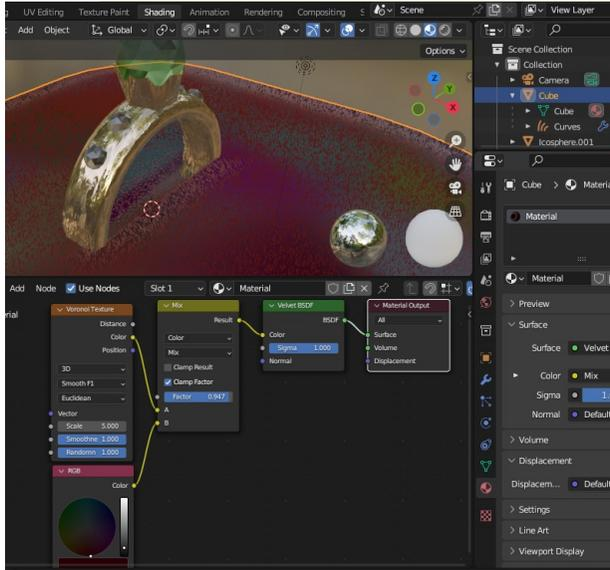

Figure 1-9 Velvet cushion material
To make the top of the mount cushion convex you need displace vertices downwards by increasing amounts, the nearer each is to a corner, if Figure 1-9 you can see the curve that I achieved. Change back to Vertex select, if it is still set to face select, and turn on Proportional Editing. Now select all four corner vertices of the top face and move them down using shortcut G then Z then LMB, in a similar way to the scaling you applied to the cube earlier. The three transformations; scale, move and rotate are so ubiquitous while modeling that I will refer to them throughout the book by their shortcuts rather than their menu path. You are aiming to form a nice
4. If you expand the Cube object in the Outliner Editor you will see that a new object has been added called Curves, as a child of Cube, as visible on the right of Figure 1-9. This has now become the selected object. Click on the Modifier Properties tab (blue wrench) and in the modifier called Generate Hair Curves, reduce the Control Points to **2**. In Set Hair Curve Profile, increase Radius to **0.005** and in Interpolate Hair Curves, increase the Density to **750**.
feed the result into the Velvet shader, adjusting the controls until you get an interesting result, the node arrangement is shown in Figure 1-9.